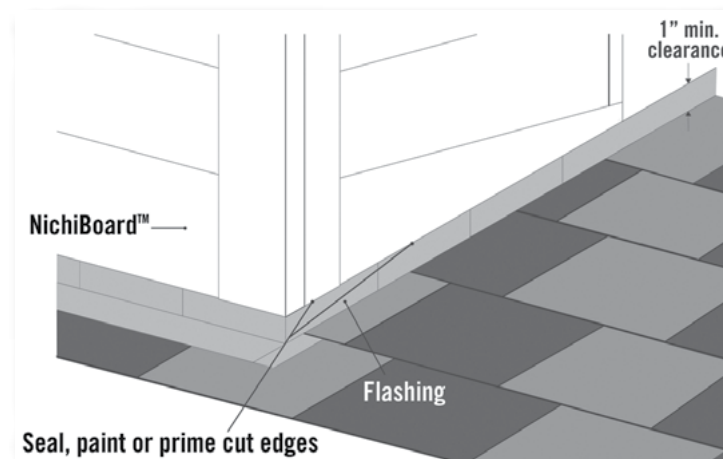

Fig. 1.3
- At roof and wall junctures and according to roofing manufacturer's instructions, flashing and counter-flashing are required. NichiProducts must be installed with a minimum 1" clearance from roofing. (Fig. 1.3)